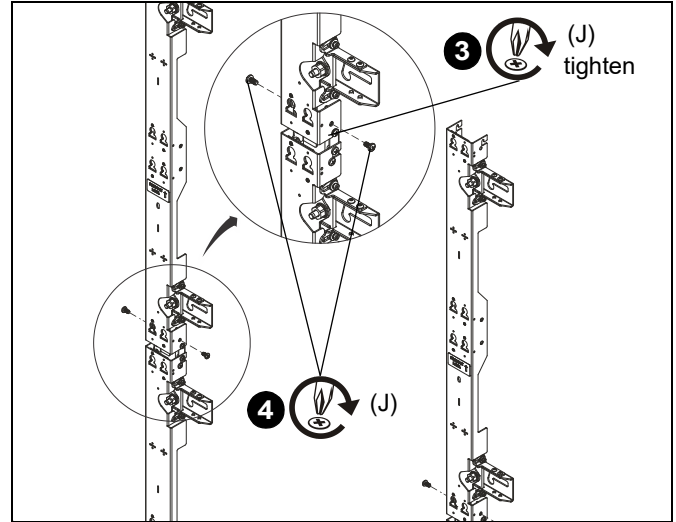

Figure 19
2. Install remaining 1/4-20 x 1/2" Phillips pan machine screws (J) into hole above partially installed screws. (See Figure 19)
3. Tighten partially installed screw (J) to secure additional upright to existing upright. (See Figure 19)